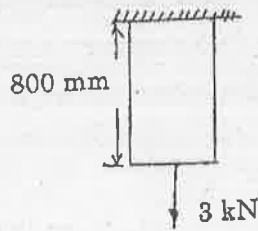

Fig.Q.12 (a)
12. (a) A steel bar of length 800 mm is subjected to an axial load of 3 kN as shown in fig. Q. 12(a). Find the elongation of the bar, neglecting self weight. (16)